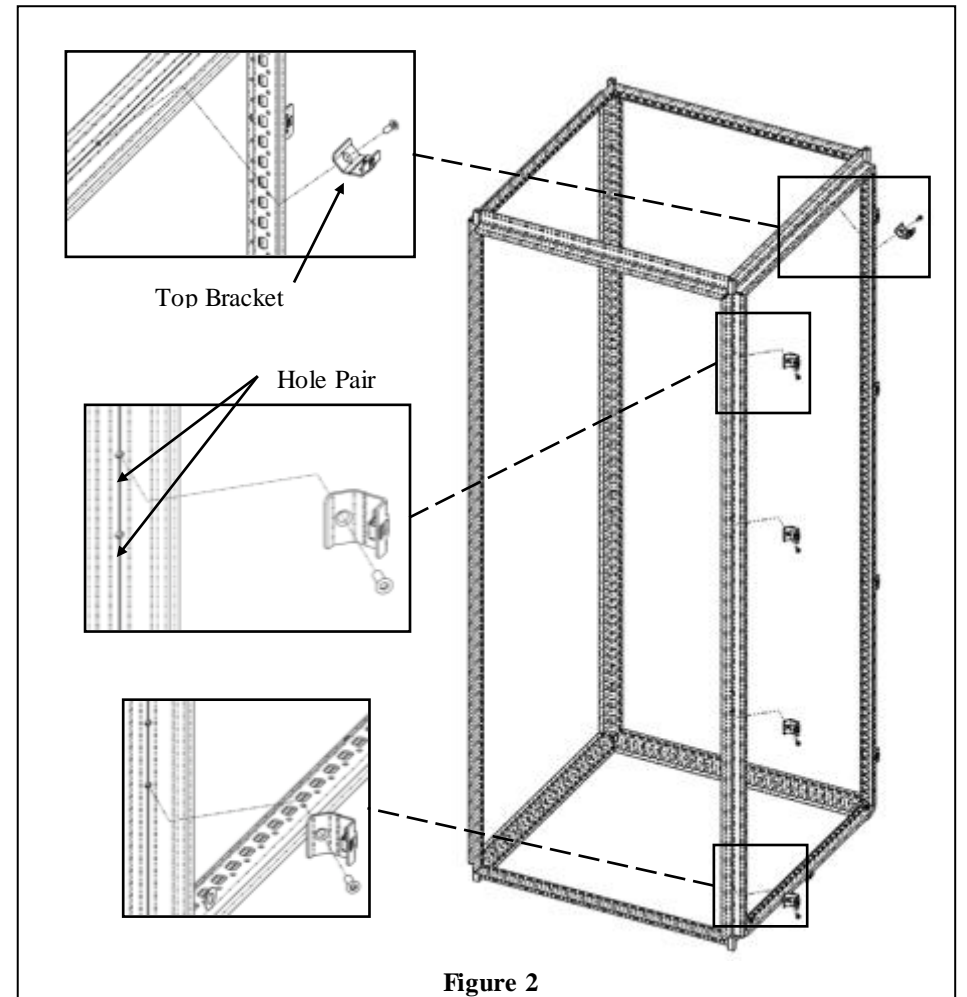

Figure 2
2. Install top bracket in orientation shown using M6X16 torx head screw. Install side brackets using same screw. Orient as shown. Top two brackets install in upper hole of hole pair. Lower two brackets install in lower hole of hole pair. Torque to 55 in-lb [6.2 N-m]. See Figure 2.